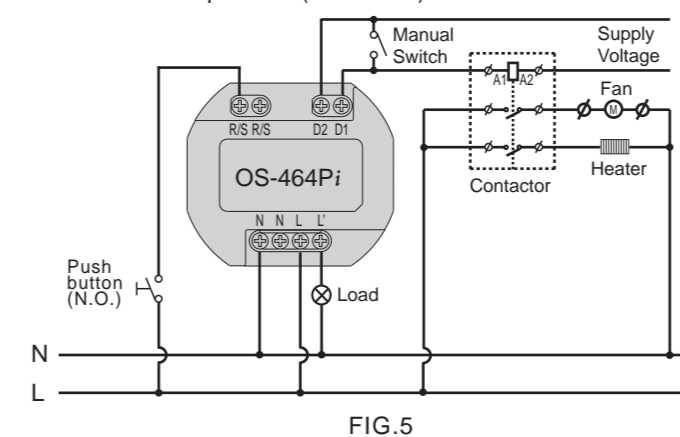
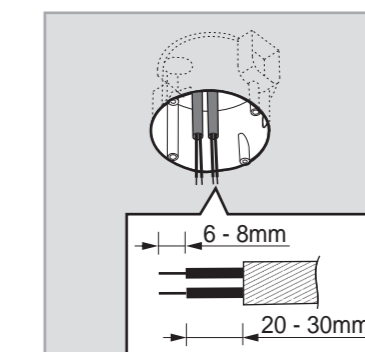
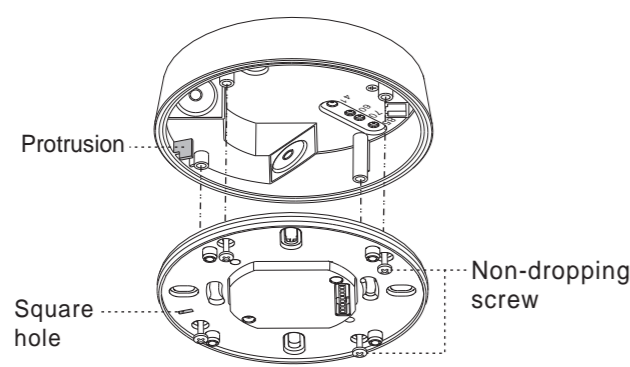

FIG.5
FIG.12
FIG.21
- 3.3.1.1 Normal operation (See FIG.5)
- 3.4.1.2 Pull out AC power cables from European standard junction box (See FIG.12), then strip off 6 - 8mm of cable sheathing for wiring (See FIG.5 - FIG.10).
- 3.4.2.3 Please refer to illustration of FIG.5 - FIG.10 for correct wiring and then screw the SP-96 tightly.
3.4.3.5 Refer to wiring diagrams for correct wiring connection (See FIG.5 - FIG.10). There is a square hole in the fixing plate, when you put the fixing plate into the junction box, please fit the filler into the junction box's protrusion (See FIG.21), then fix the detector head on the power box following FIG.8 and assemble them with the attached 4pcs non-dropping screws.